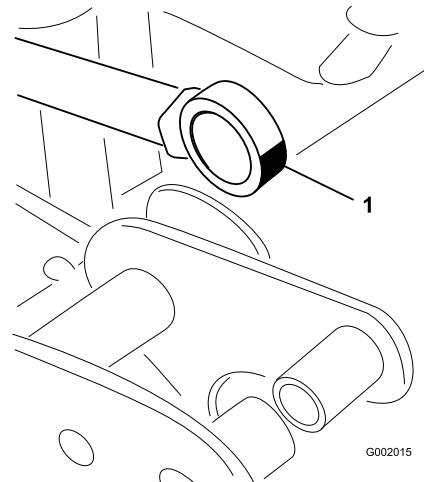

Figure 63
5. Swivel the rod-end bearing and apply grease into the bearing (Figure 63).